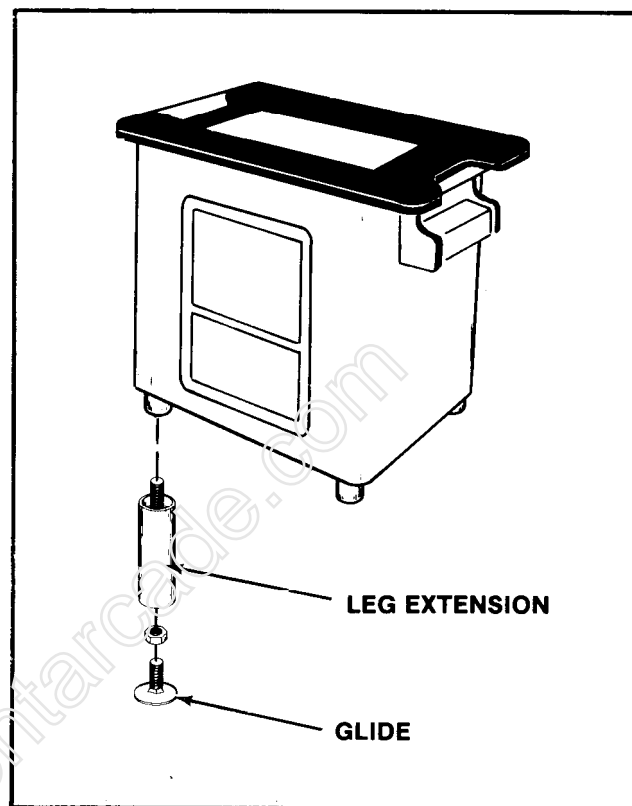

Figure 1-6 Cocktail Table Leg Extension Installation
- C. Install a Leg Extension in each Cocktail Table Leg that you removed a Glide from. See Figure 1-6. **Make sure** they are tightly screwed in place. They **must not** be loose.
- D. Reinsert the 4 Glides into the bottoms of the Leg Extensions you just installed. See Figure 1-6.